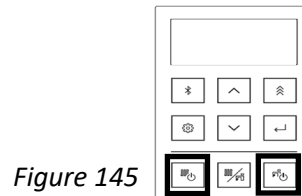

Figure 145
2. Turn off DHW and CH buttons on the controller (Figure 145).